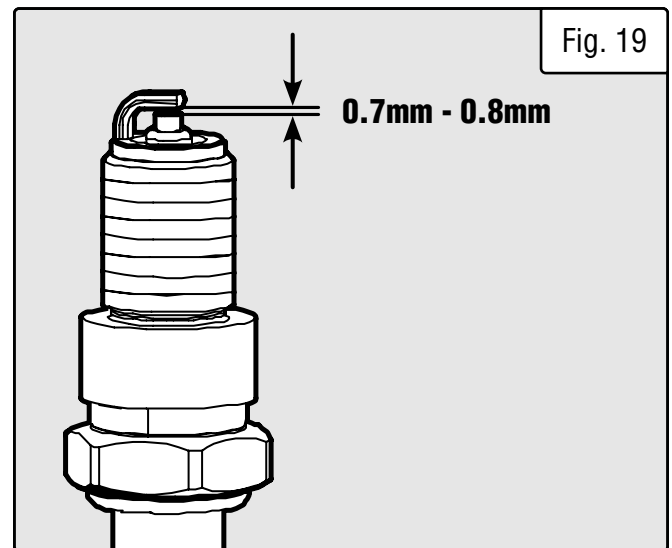

Fig. 19
5. Measure the plug gap with a spark plug gap gauge. The gap should be **0.7 to 0.8 mm (0.028-0.031 in.)** (Fig. 19). Carefully adjust the gap if necessary.